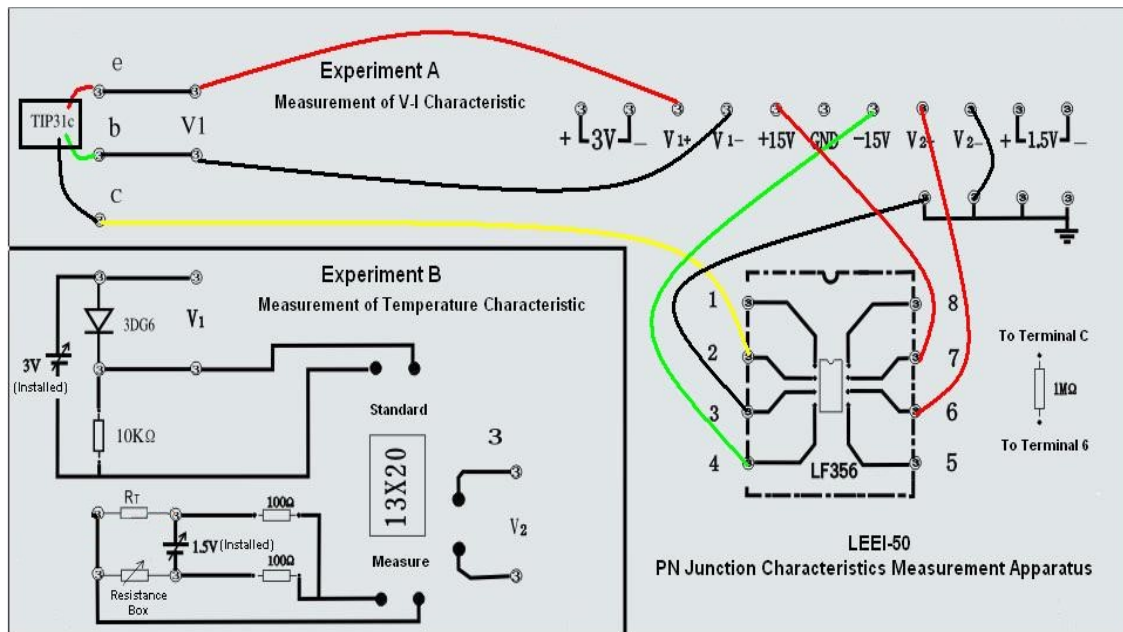

Figure 4 Panel circuit connections for measuring diffusion current vs junction voltage
- 1) Based on the circuit diagram shown in Figure. 1, make circuit panel connections per Figure 4. U_1 is the 3-1/2 digits voltmeter while U_2 is the 4-1/2 digits voltmeter. TIP31 is a power transistor with heat sink. Place the TIP31 transistor in the drywell of the heater. To remain the PN junction at the same temperature as surroundings, the TIP31 transistor should be immersed in transformer oil or thermal grease in the drywell (oil or grease needs to be prepared by user). By pressing down the RED “Reset” button, the temperature in the drywell can be displayed (see Appendix 2 “Temperature Controller”).